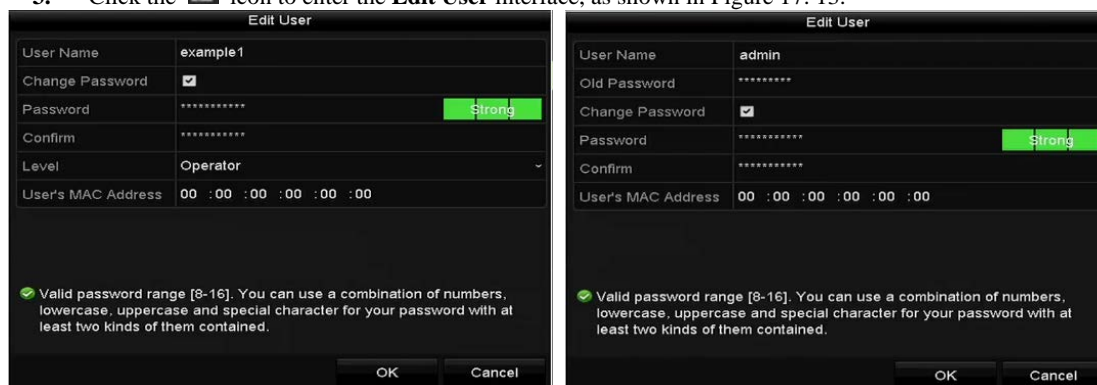

Figure 17. 13 Edit User Interface
3. Click the  icon to enter the **Edit User** interface, as shown in Figure 17. 13.